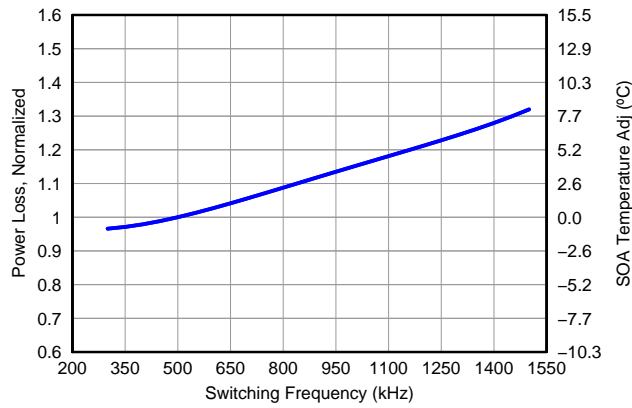

Figure 6. Normalized Power Loss vs Switching Frequency
- Normalized power loss for switching frequency ≈ 1.17 (Figure 6)